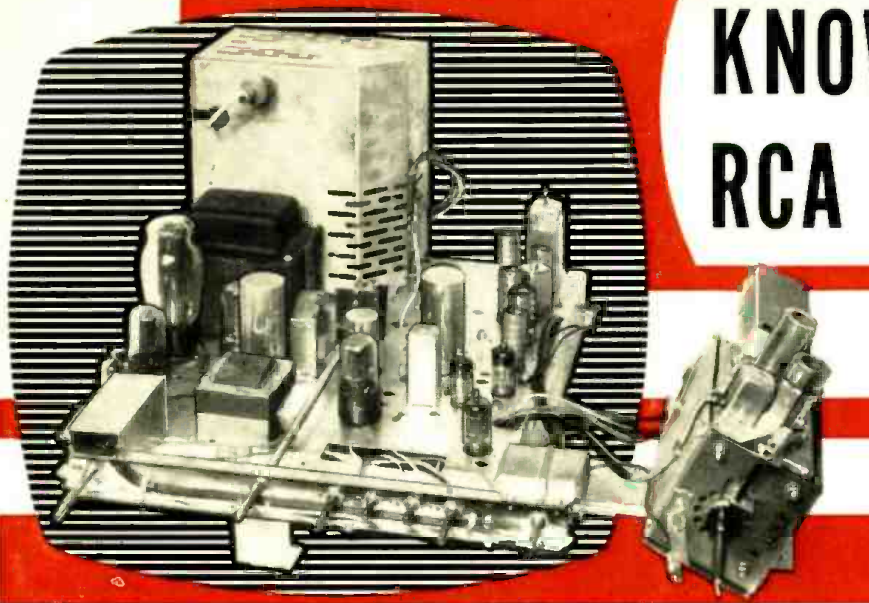

Fig. 1. The RCA Victor KCS-82 chassis shown with the KRK-11 v.h.f. tuner on the right. This chassis, with a KRK-12 tuner, receives both u.h.f. and v.h.f.
Fig. 1. The “Monimeter.” Left, front-panel view, showing bandswitch, phone jack, and filament switch across bottom. Right, top-of-chassis view. The unit is completely self-contained in a 6"x6"x6" utility box.
**O**F THE many design features of the new RCA Victor television chassis, the most significant are the relocation of front-panel controls and the addition of a u.h.f.-v.h.f. tuner in "U" model receivers. To illustrate the new locations of the controls, the KCS-82 chassis with a KRK-11 tuner is shown in Fig. 1. This chassis, as with other current RCA Victor chassis, will be used with either a v.h.f. tuner (KRK-22) or a combination u.h.f.-v.h.f. tuner (KRK-12). The receiver models which use KRK-12 have a "U" suffix added to the model number. Thus, Model 21T303 is a 21-inch receiver which includes the KCS-82 chassis with the KRK-22 (v.h.f.) tuner. Model 21T303U is a 21-inch receiver which includes the same chassis but with the KRK-12 (u.h.f.-v.h.f.) tuner. In early production models, the KRK-11, an r.f. tuner similar to the KRK-22, is used with the KCS-82 chassis.